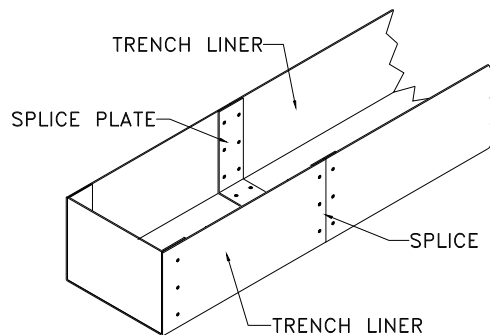

Figure 13
**STEP 8.** Spot weld or rivet the free end of the splice plate to the mating section of the trench liner, ensuring that the mating sections of the trench liner remain as tightly abutted together as possible (see Figure 13).